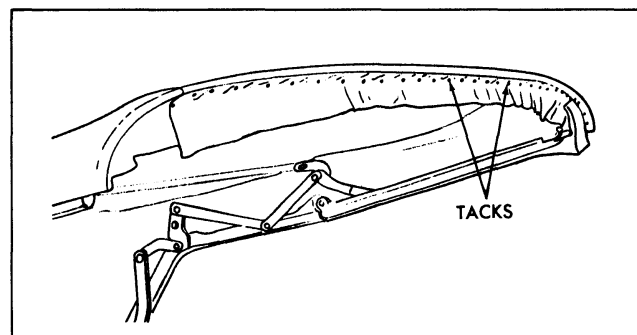

Fig. 22-53 Installation of Top Material
50. Unlock top from windshield header and apply neoprene-type weatherstrip adhesive to tacking area of front roof rail. Pull top trim material slightly forward so that pencil marks are forward on front edge of front roof rail. Fasten top trim to cemented area and stay tack trim to rail (Fig. 22-53).